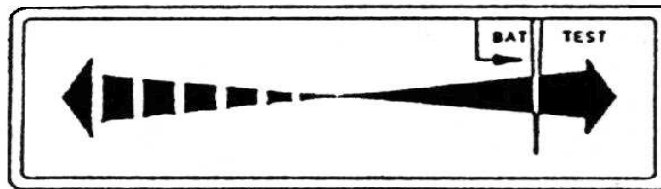

Figure 3, Position of Meter Needle for Battery Test
- Set the Receiver functions switch to battery test (second position). The needle on the left/right guidance meter should be to the right of the line labeled battery test, as shown in Figure 3. The farther the needle is to the right of this line, the greater the charge in the batteries. If the needle is to the left of the line, the Receiver batteries should be replaced.